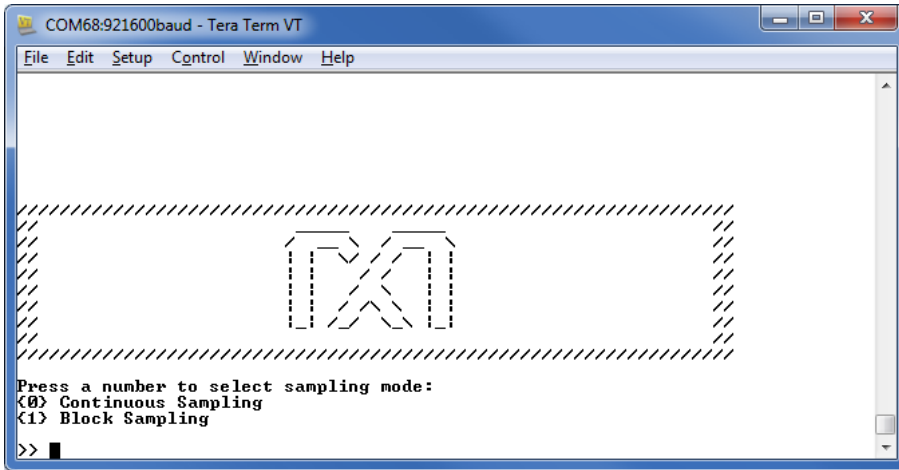

Figure 3. Terminal program main menu.
7. The MAXREFDES61# software will display a menu (**Figure 3**)